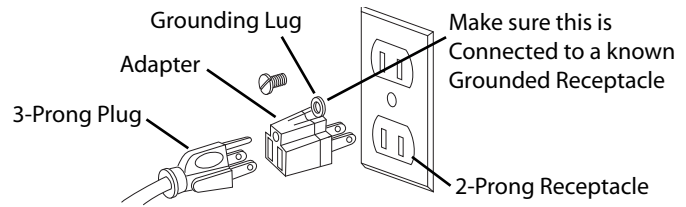

Figure 3 – 2-Prong Receptacle with Adapter
- A temporary 3-prong to 2-prong grounding adapter (See Figure 3) is available for connecting plugs to a two pole outlet if it is properly grounded.